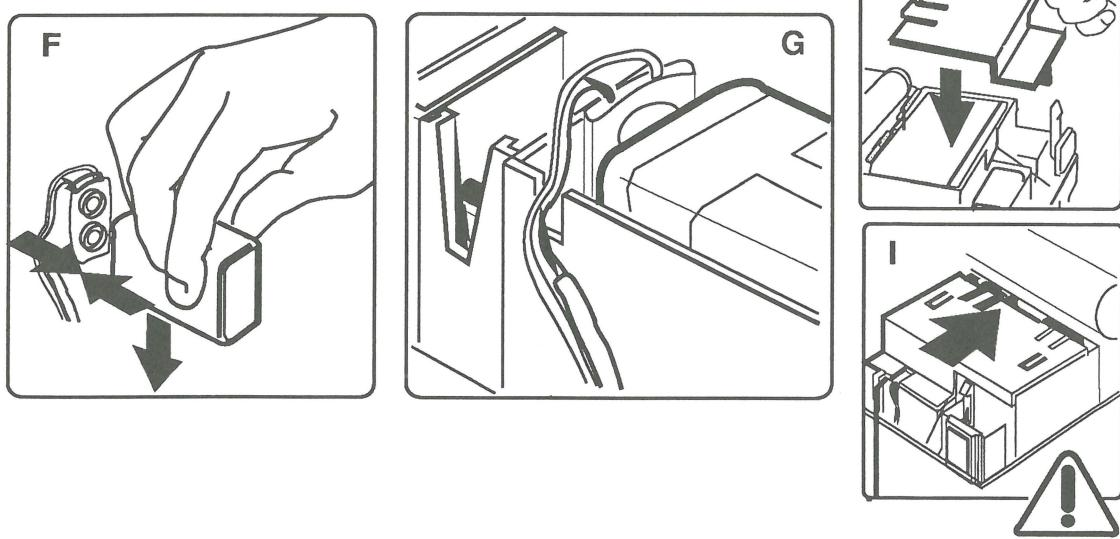

FIGURE 4
2. **Figure 4-A.** Press down on the two plastic tabs at the front of the battery cover and slide the battery cover toward the rear of the computer.
3. **Figure 4-B.** Lift the battery cover off.
4. **Figure 4-C.** Locate the backup battery. **Figure 4-D.** Use the tip of the jeweler's screwdriver to lift the edge of the backup battery far enough to grab the battery with your fingers and remove the battery from its compartment.
5. **Figure 4-E.** Disconnect the battery cable from the battery.
1. **Figure 4-F.** Connect the battery cable to the battery.
2. **Figure 4-G.** Place the battery into the battery compartment. The battery cable should be at the left side of the compartment.
Note: **Figure 4-G.** Make sure the backup battery wires are well seated in the slot in the battery compartment and are not being pinched when the battery cover is on.
3. **Figure 4-H and 4-I.** Place the battery cover on the battery compartment and slide it evenly toward the front of the computer until it snaps in place.